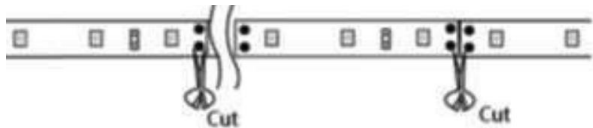

Fig. 3
- When cutting the LED flex, ensure to only do so at the marked cutting points (see Fig. 3)